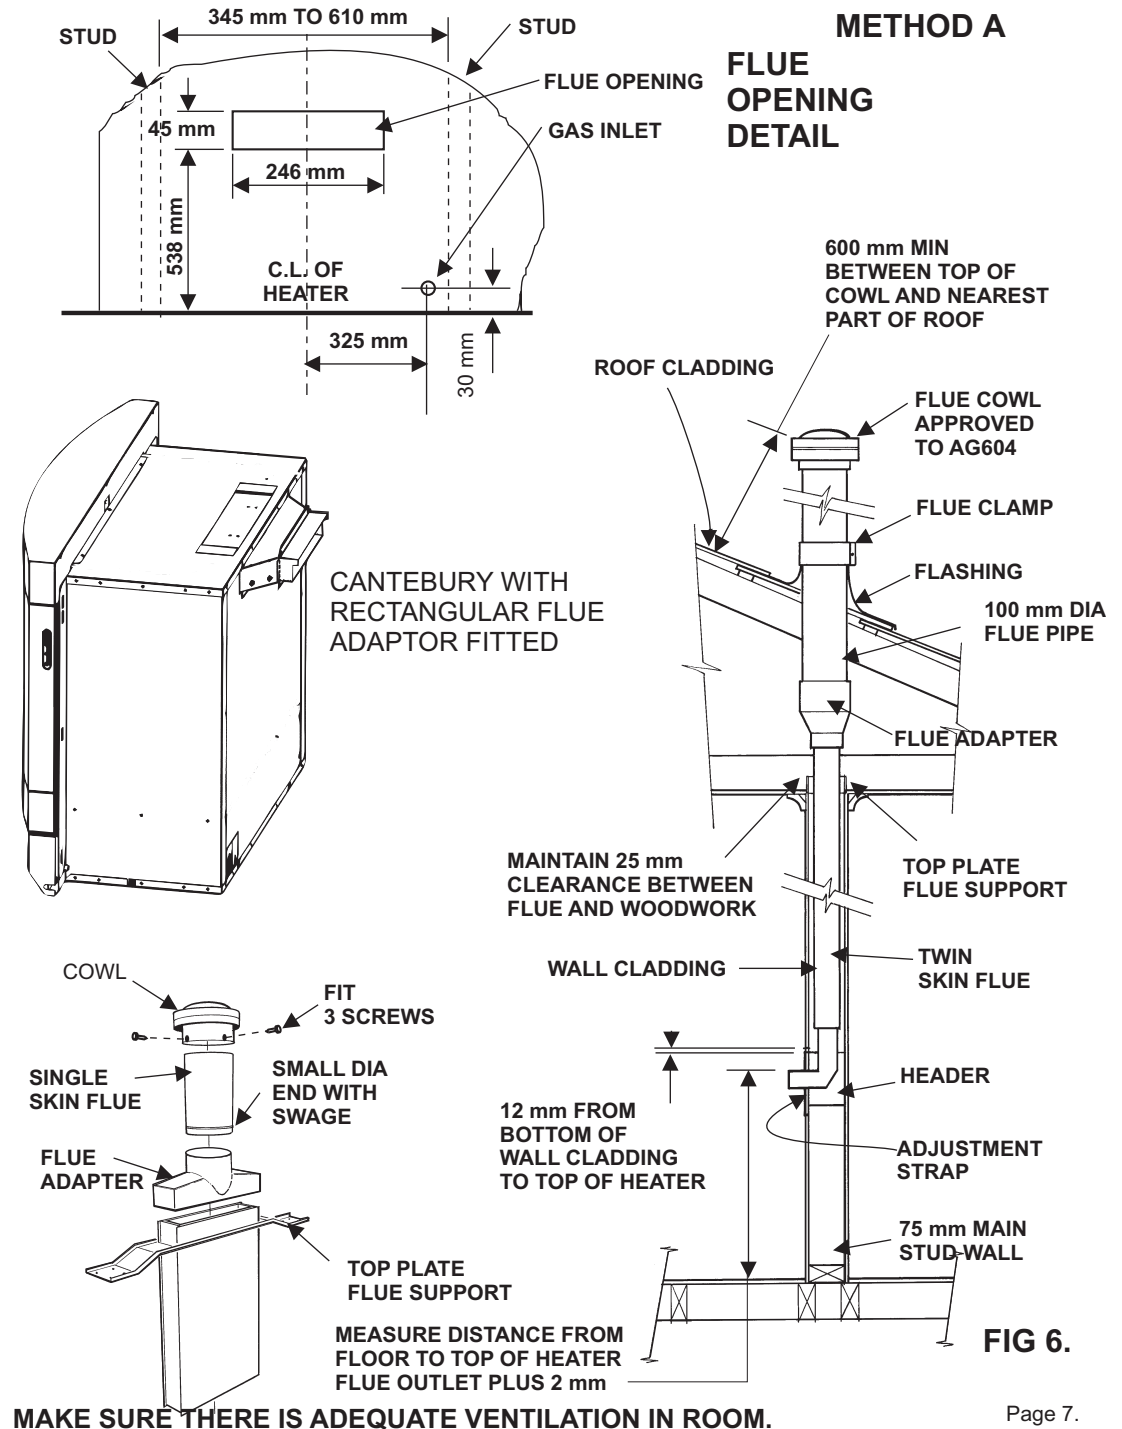

FIG 6.
4. Fit header assembly into flue opening leaving a 12mm gap between top of the header assembly and wall cladding as shown. (see Fig 6).